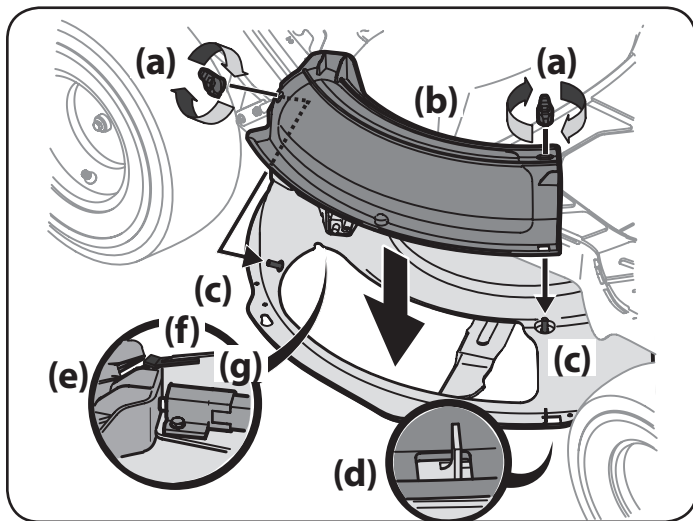

Figure 9
- Remove the wing knobs (a) installed on the mowing deck and retain for later installation. See Figure 9.
- Install the mulch plug (b) into the deck discharge opening on the deck. The rear of the mulch plug (b) should be under the tab (f) on the rear deck bracket (g). The studs (c) on the deck surface will fit through the holes on the upper portion of the mulch plug (b). The small tab (d) on the deck lip area will fit through the square cutout on the lower portion of the mulch plug (b). See Figure 9.